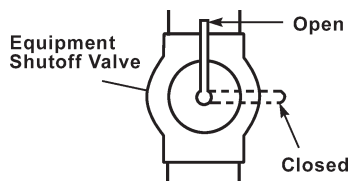

Figure 13-Equipment Shutoff Valve
1. Close equipment shutoff valve (see Figure 13).
1. Open equipment shutoff valve (see Figure 13).